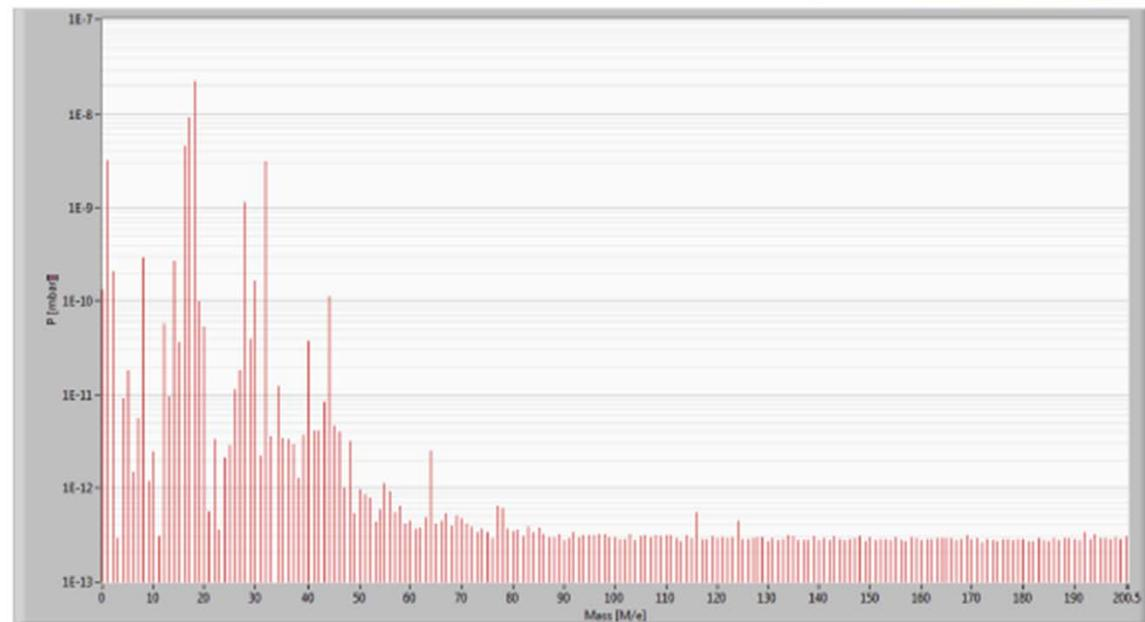

Figure-2
- The result is then calculated by subtracting the background from the sample results. Figure-2 depicts the background scan